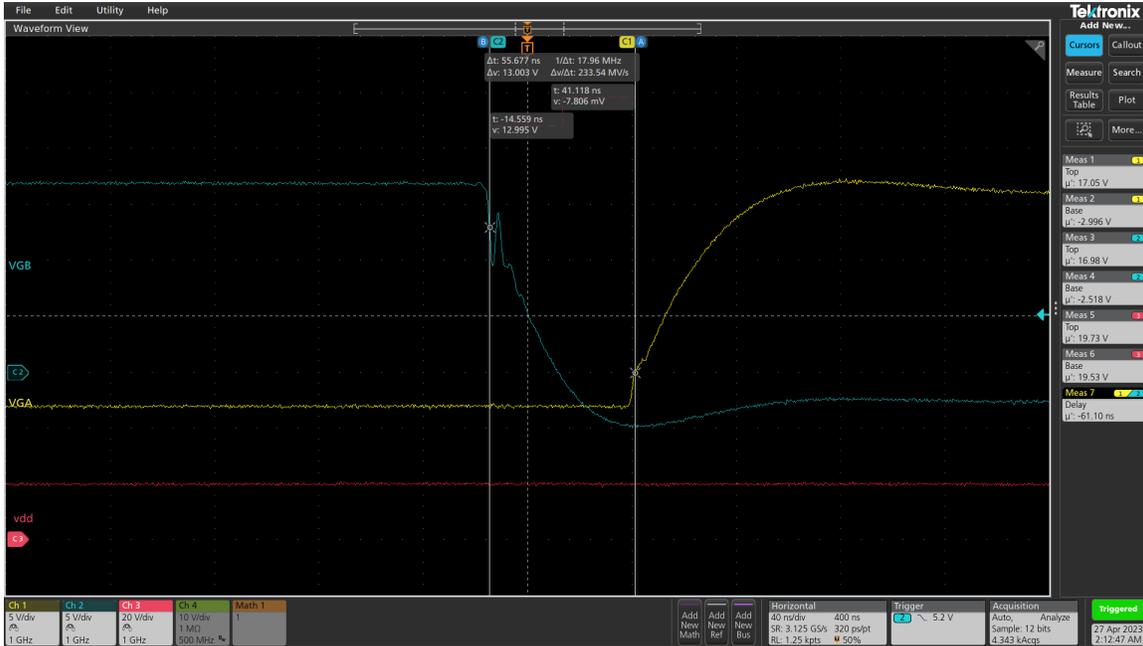

Figure 3-5. Programmable Mode: 5 kΩ RDT Resistor Selection
- Programmable Mode:** Programmable dead time mode is activated when the dead time pin is connected to a resistor between 1.7K-100K Ohms to ground. To activate this mode on the EVM, leave jumper J5 unconnected. To adjust the deadtime, use the switches on SDT_DT1. By default, switch the switches to the left. To program the dead time, move the switch to the right. The available resistors allow for various dead time settings. Additional values can be created by toggling multiple switches at the same time, which has the effect of paralleling the resistors. Figure 3-5 is an example output waveform with 5 kΩ resistance.